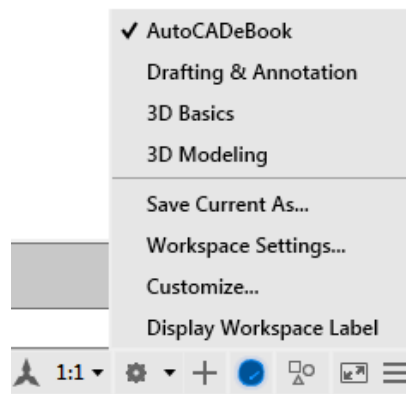

Figure Step 14
Step 14 (Toolbar menus) Click the small arrow in the Workplace Switching icon again on the Status bar. Click the workspace: AutoCADeBook to set it as the current workspace. Make sure that the check mark is beside the workspace: AutoCADeBook as shown in the figure. (Figure Step 14)